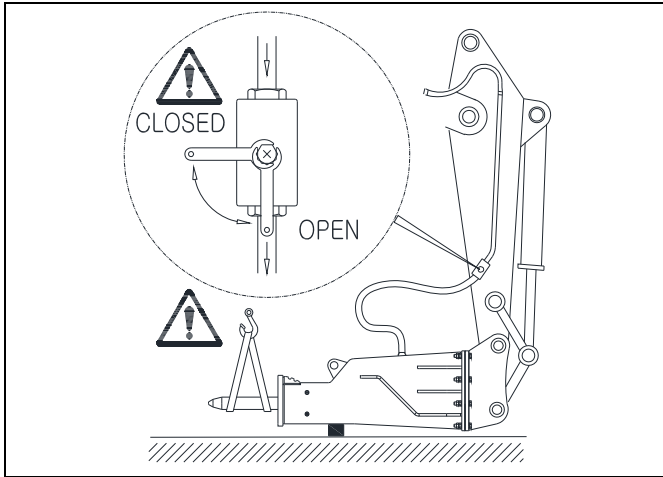

Fig. 10-2 Close Valves, Elevate, Support Tool
2. Close shut off valves [Fig. 10-2]